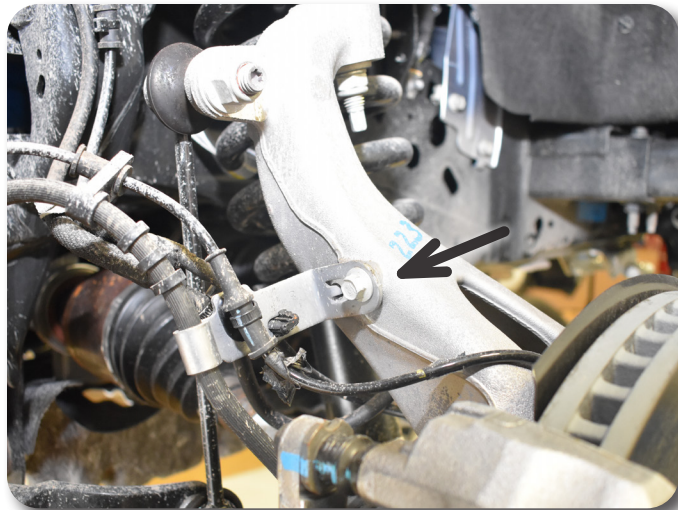

Figure 2
6. Disconnect the front brake line and ABS line from the steering knuckle. **Figure 2**